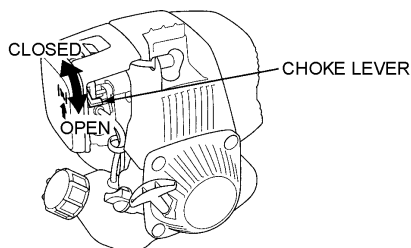

Figure 11. Choke Lever
1. To start a cold engine, move the choke lever (Figure 11) to the **CLOSED** position. If restarting a warm engine leave the choke lever in the **OPEN** position.